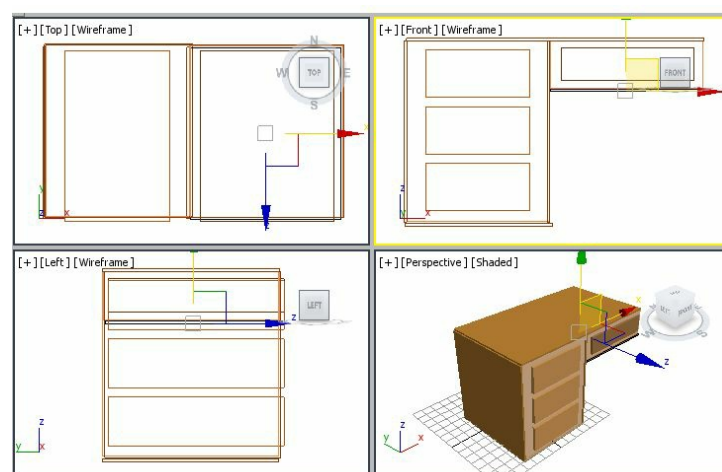

Figure 2-58 Alignment of right lower face at the bottom of right box of the table
13. Align *right lower face* at the bottom of *right box*, as shown in Figure 2-58.